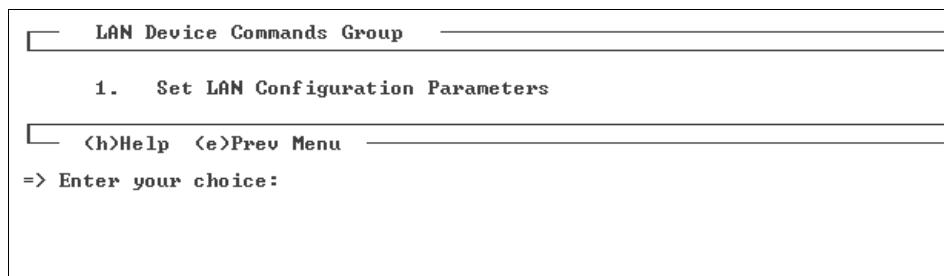

Figure 2-14 LAN Device Commands Group
1. Enter 7 from the main menu to select Set LAN Device Commands Group. Figure 2-14 appears.